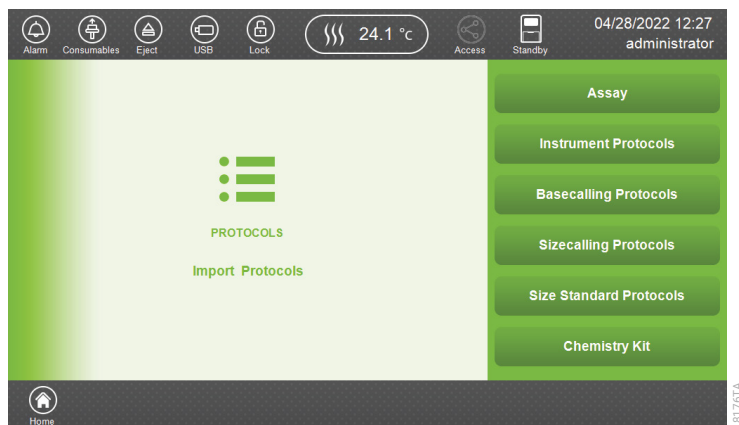
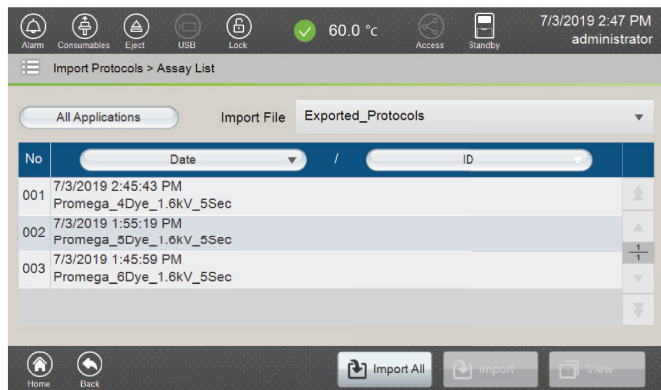

Figure 154. 'Import Protocols' screen.
Figure 155. 'Assay List' screen.
1. Select **Import Protocols** on the 'Main Menu' screen (Figure 9) to access the 'Import Protocols' screen (Figure 154).
3. Select the appropriate protocol type on the 'Import Protocols' screen (Figure 154). This displays the 'Assay List' screen (Figure 155).